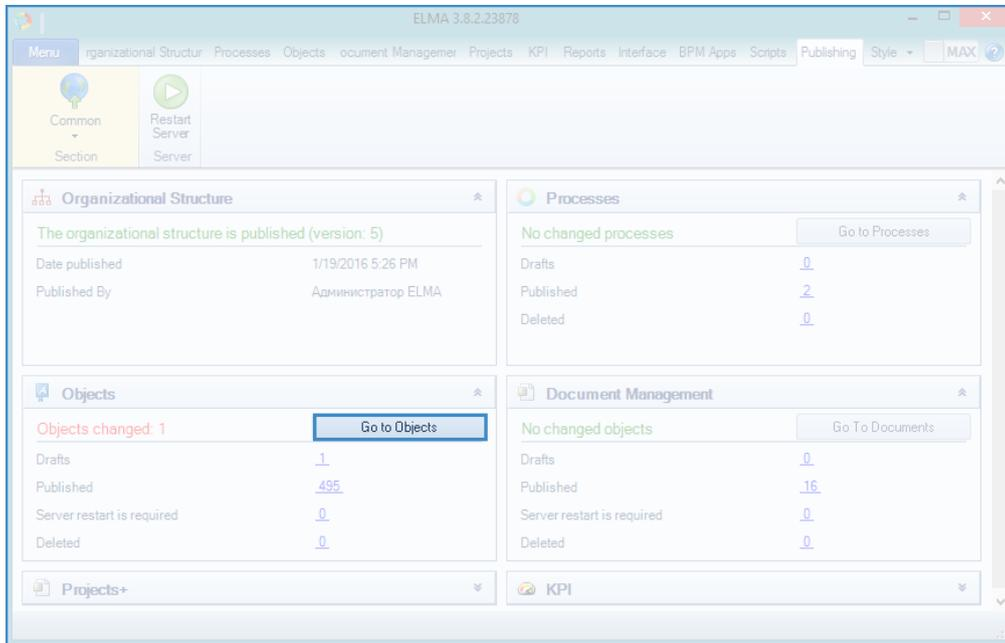

Fig. 11. Publishing objects tab
- On the next page, find the section **Objects** and click **Go to object** (Fig. 11);